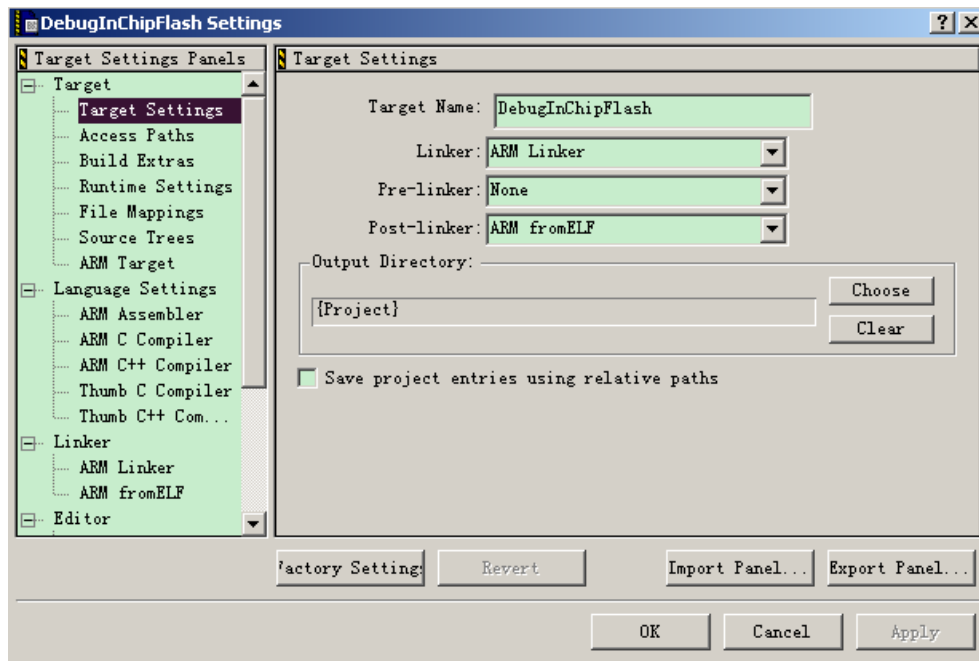
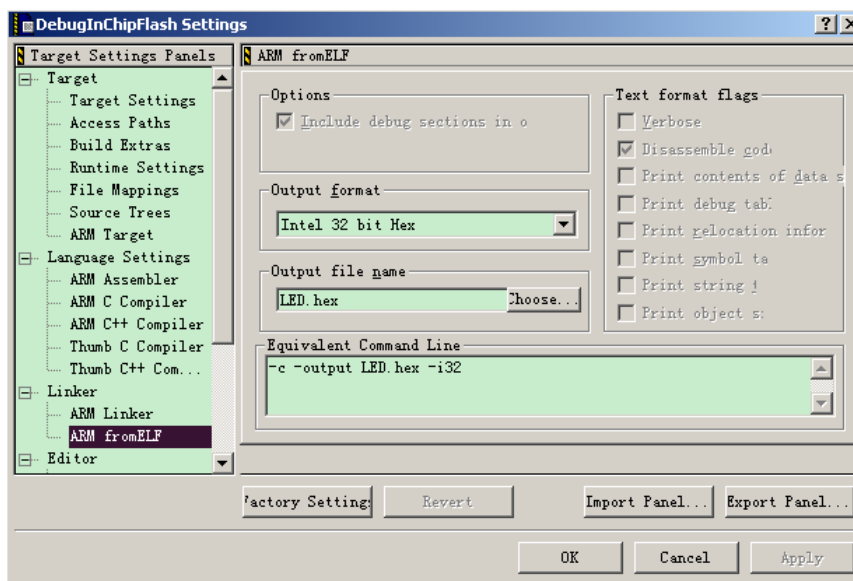

Figure 8 Target Settings
Figure 9 ARM from ELF
- (8) Press setting icon  to set the project as Figure 8 and Figure 9 shows.
- (9) Press MAKE icon  to compile the project, make a hex file with a name in Figure 9.